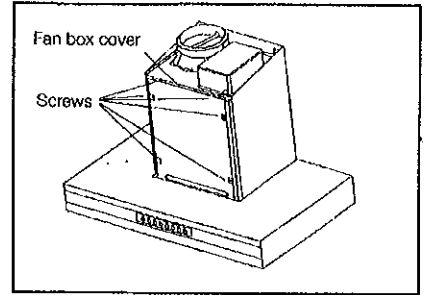

Fig. 13
- **(Fig. 13)** Using a screwdriver to remove the fan box cover.